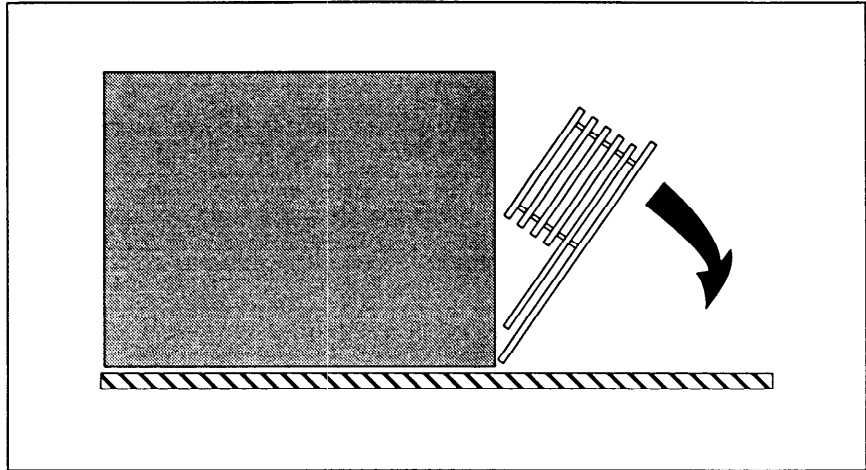

Figure 4. Pivoting control assembly for removal from cabinet
7. Referring to Figure 4, pivot the assembly slightly forward so that you can grasp the front panel. Next, carefully continue pivoting the assembly on its bottom edge until all boards clear the cabinet opening. Then lay the assembly face down on the ESD surface and continue with *Removing Controller Option Boards*, described next.